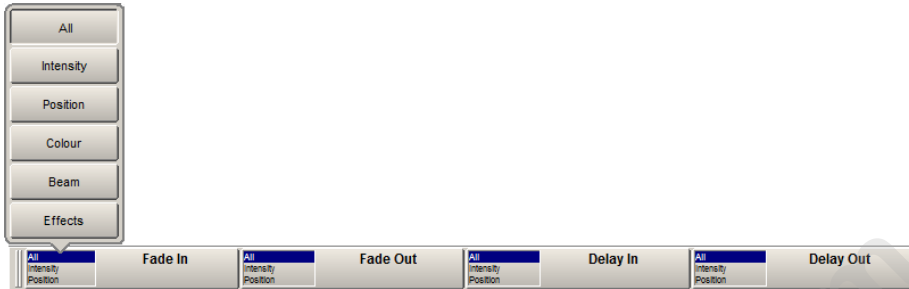

Figure 20.5. Selecting Parameter Types from the Wheels Toolbar
4. Click on Fade In, Fade Out, Delay In or Delay Out and select a parameter type; see *Figure 20.5, “Selecting Parameter Types from the Wheels Toolbar”*.